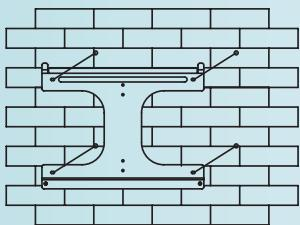

Fig. 4
- Use the mounting frame supplied as a drilling template (**Fig. 4**).